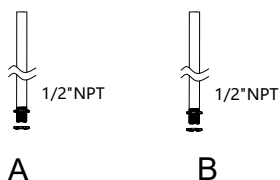

Fig 8
1. Unscrew the nuts on 1/2" NPT (Fig 8)